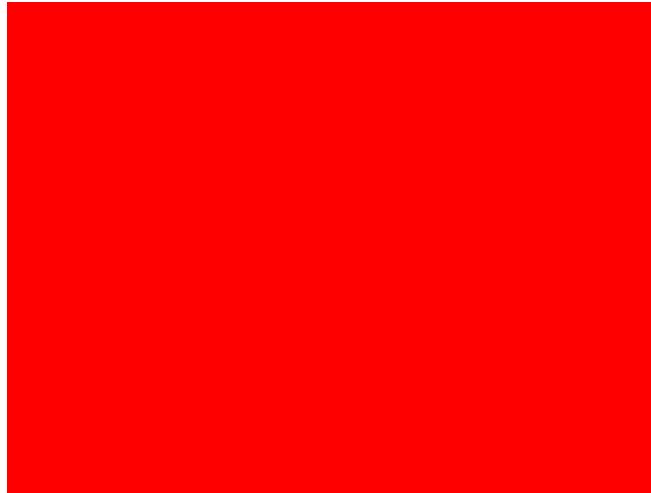

Figure 4. Example of Solid Field Test Pattern (Red)
- As noted in Table 4, the color for the Solid Field pattern is specified using the Foreground color. An example of a Solid Field pattern is shown in Figure 4.